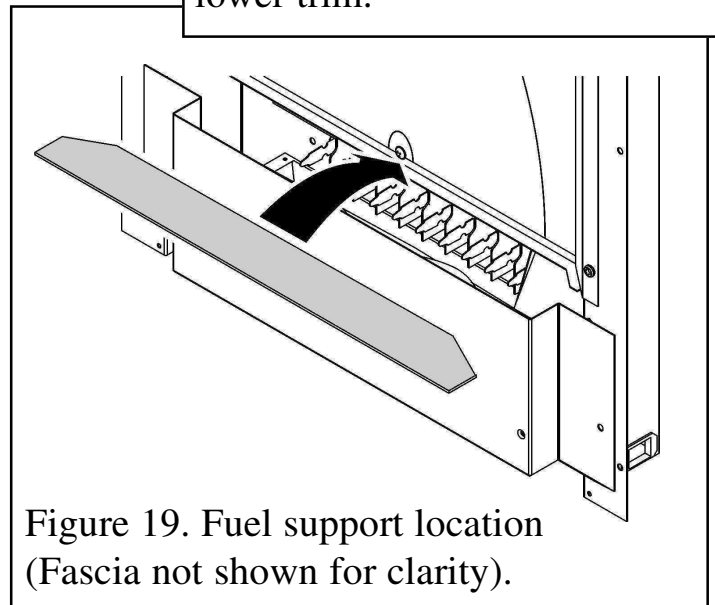

Figure 19. Fuel support location (Fascia not shown for clarity).
1. Locate the fuel support as in figure 19.